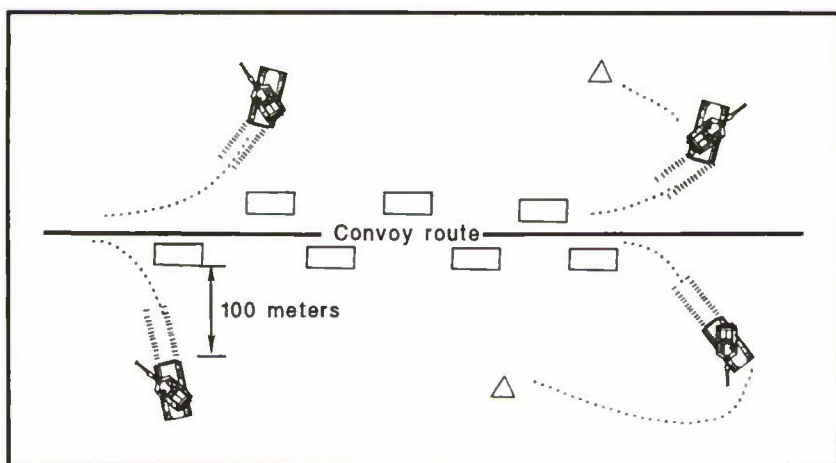

Figure 5-11A. Convoy assumes herringbone formation.
- If possible, escort vehicles are positioned up to 100 meters beyond the convoy vehicles, which are just clear of the route (see Figure 5-11A). Escort vehicles remain at REDCON-1 but establish local security based on the factors of METT-T.